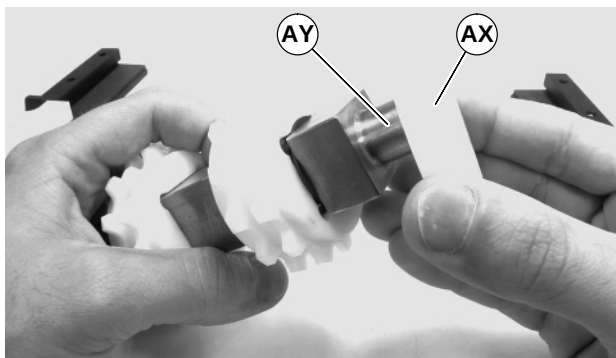

Figure 32
5. Slide idler end guard (AX of Figure 32) from ends of pulley (AY).